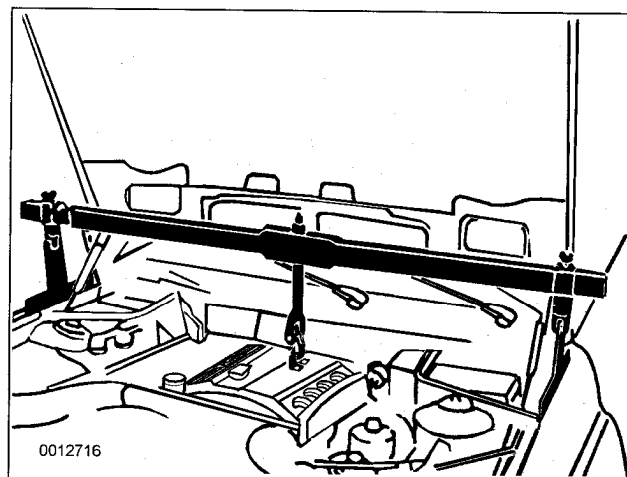

Fig. 11. Engine lifting equipment shown installed across engine.
9. Install engine lifting equipment at front engine lifting point and raise engine approximately 5 mm ($\frac{1}{4}$ inch) until engine weight is supported. See Fig. 11.